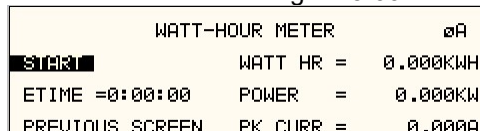

Figure 8-33 Watt-Hour Meter Screen
- The WATT-HOURS METER screen shown in Figure 8-33 has the following fields: